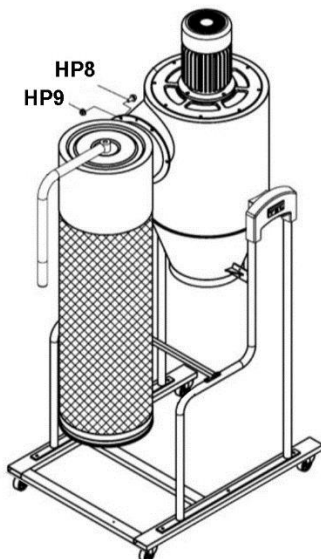

Figure 9
10. Place gasket (X) between canister filter and main housing. Install canister filter onto main housing, and tighten with flange head screws (HP9) and nuts (HP8). See Figure 9.